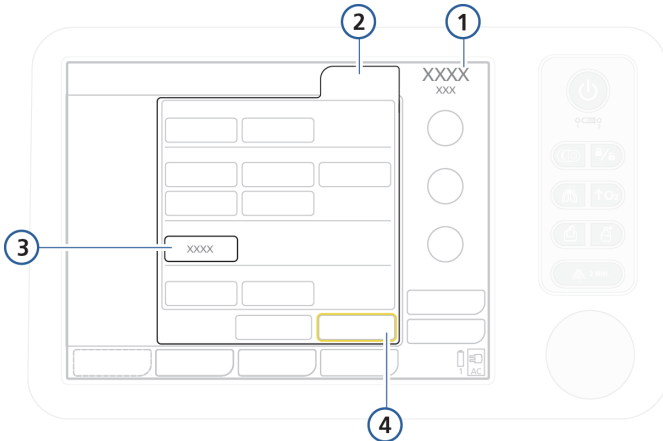

Figure 4-4. Changing the mode, Modes window
1. Open the **Modes** window. See Figure 4-4.